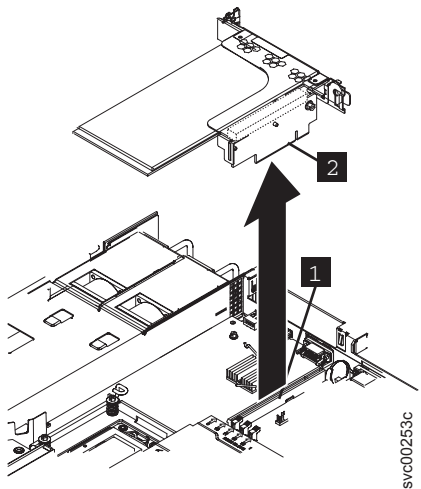

Figure 195. Removing the high-speed SAS riser-card assembly for the SAN Volume Controller 2145-CG8 or 2145-CF8
9. After removing the back-rail retaining screws for the adapter assembly, grasp the riser-card assembly at the rear edge and lift to remove the assembly, as shown in Figure 195.